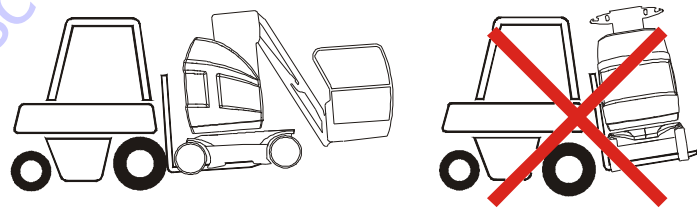

Figure 3-23. Lifting the Machine Using a Fork Truck
- Fork lift as shown in Figure 3-23.